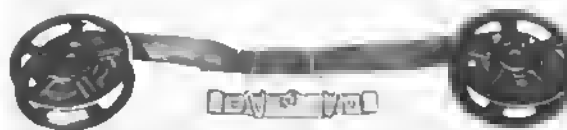

Figure 121
- (1) Remove knobs from both ribbon cups.
- (2) Attach hook on end of fabric ribbon to center of empty spool.
- (3) With full spool at left and empty spool at right insert ribbon into fabric ribbon shield (#1420) (Figure 121).
- (4) Ribbon control knob (Page 82) controls direction of ribbon motion.